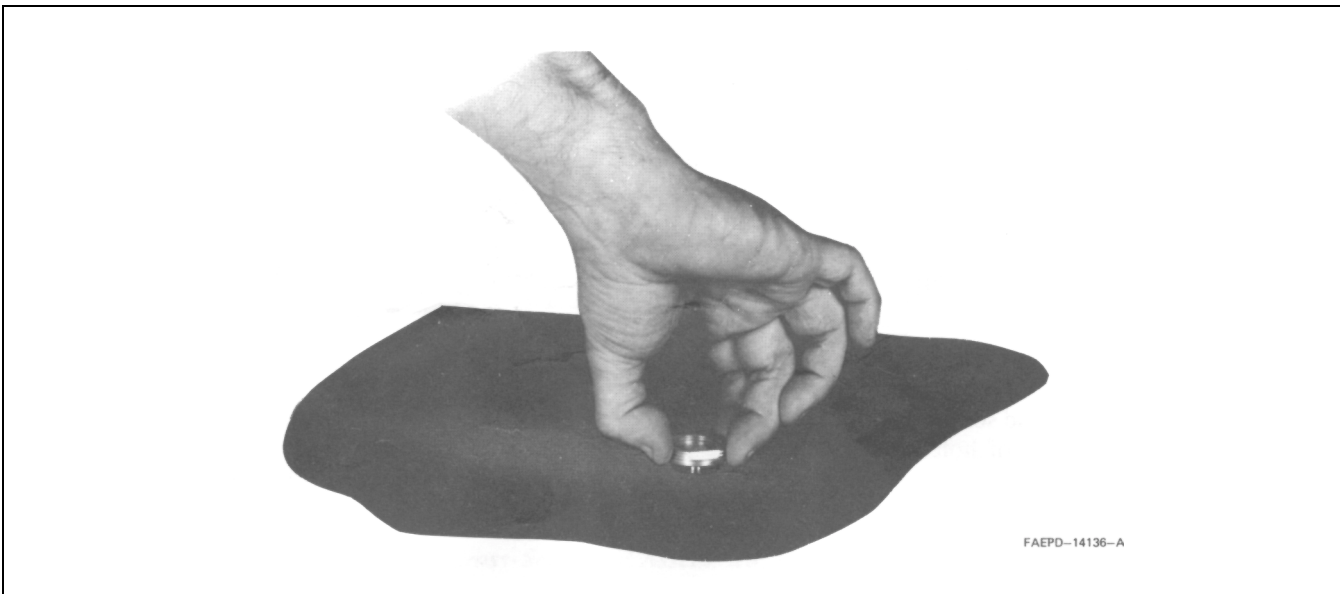

Figure 8. Locking Nut Tightening
7. Pull up on the bushing assembly as illustrated in Figure 8, and make sure it is centered and seated (both shoulders inside the drilled hole), and that the "O" ring is in the groove in the locking nut. (As furnished, the "O" ring has been placed in the locking nut groove and imbedded in silicone grease.) Use a 15/16-inch open-end wrench to tighten the locking nut until it bottoms firmly against the roof top.